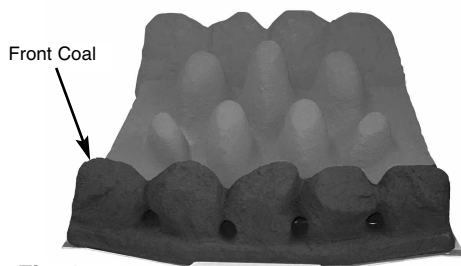

Fig. 17
3. Position the front coal on the front coal retainer, making sure that the back edge is pushed up against the front of the burner strip (Fig. 17).